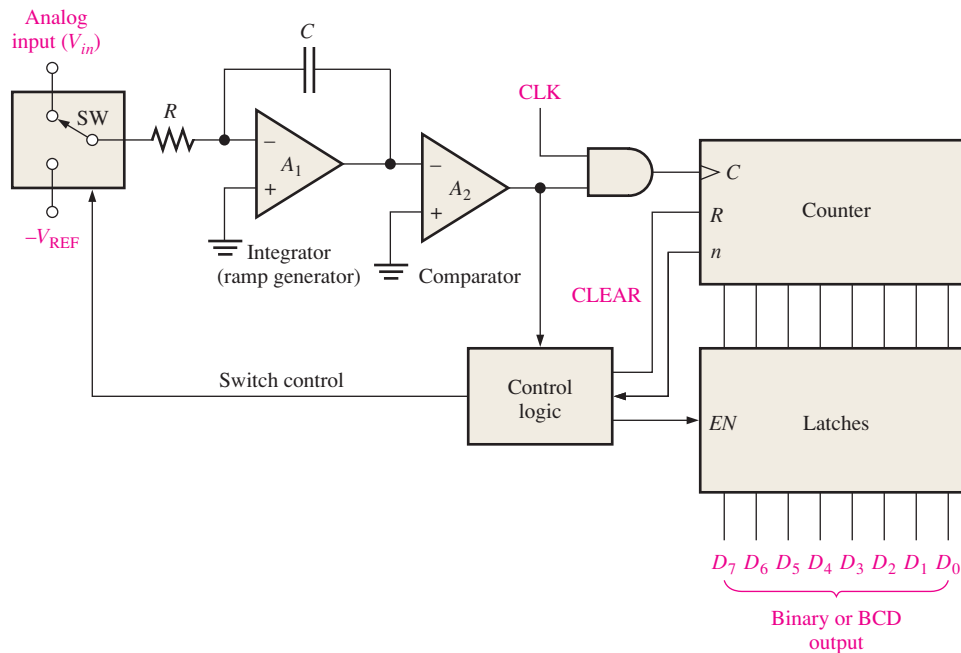

FIGURE 12–15 Basic dual-slope ADC.
Figure 12–16 illustrates dual-slope conversion. Start by assuming that the counter is reset and the output of the integrator is zero. Now assume that a positive input voltage is applied to the input through the switch (SW) as selected by the control logic. Since the